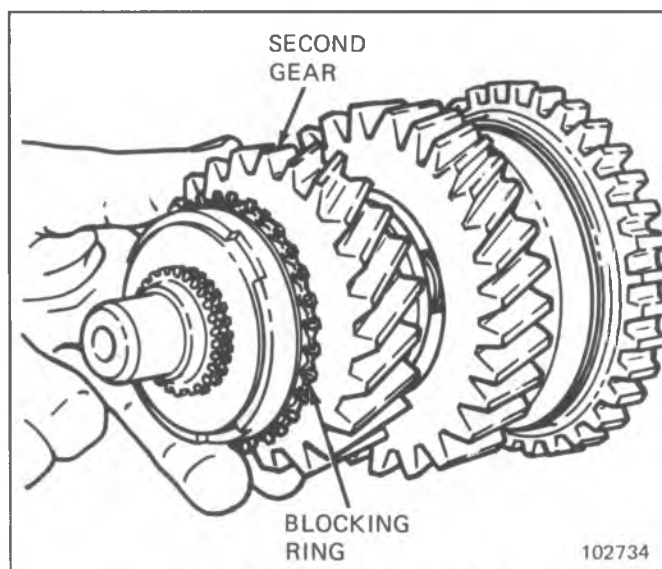

Fig. 7B2-20--Installing Second Gear
3. Install spring in First-Reverse hub. (Make sure spring is bottomed in hub and covers all three key slots.) Position three synchronizer keys in hub, with small ends in hub slots and large ends inside hub. Push keys fully into hub so they seat on spring. Then slide First-Reverse sleeve and gear over keys until the keys engage in the synchronizer sleeve (Fig. 7B2-14).